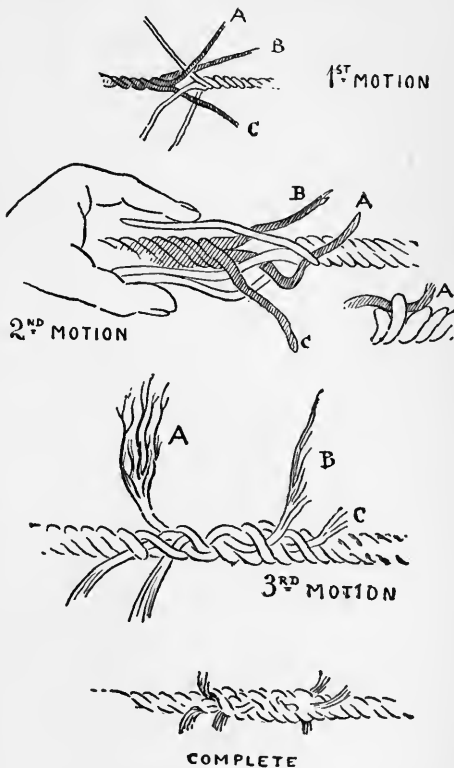

FIG. 2.—SHORT SPLICE.
2. The *short splice* is for joining two ends of rope together for ordinary use. This, too, though easily learned, is difficult to teach on paper. The accompanying diagrams (fig. 2) will, however, explain the principle of the method. *1st motion*: Unlay the strands of each rope and place the ends close together, so that the unlaied strands fit into each other as in the fig. *2nd motion*: Take the left-hand rope and the three strands of the right-hand one firmly in the left hand. Take the strand A, pass